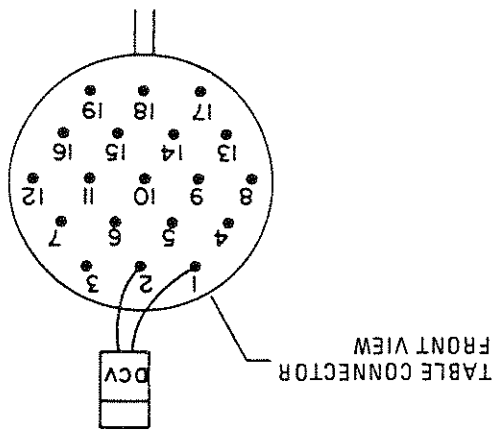

Figure 5-13. Front View Table Connector
3. Use a DC voltmeter 10V scale and measure the following pins located in the 19 pin table socket connector. See figure 5-13.